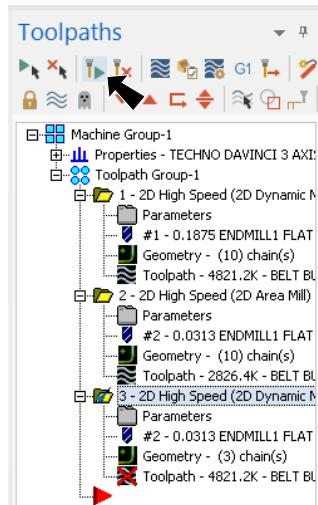

Fig. 69
Step 1. In the Toolpaths Manager, click **Regenerate all selected operations** , Fig. 69.